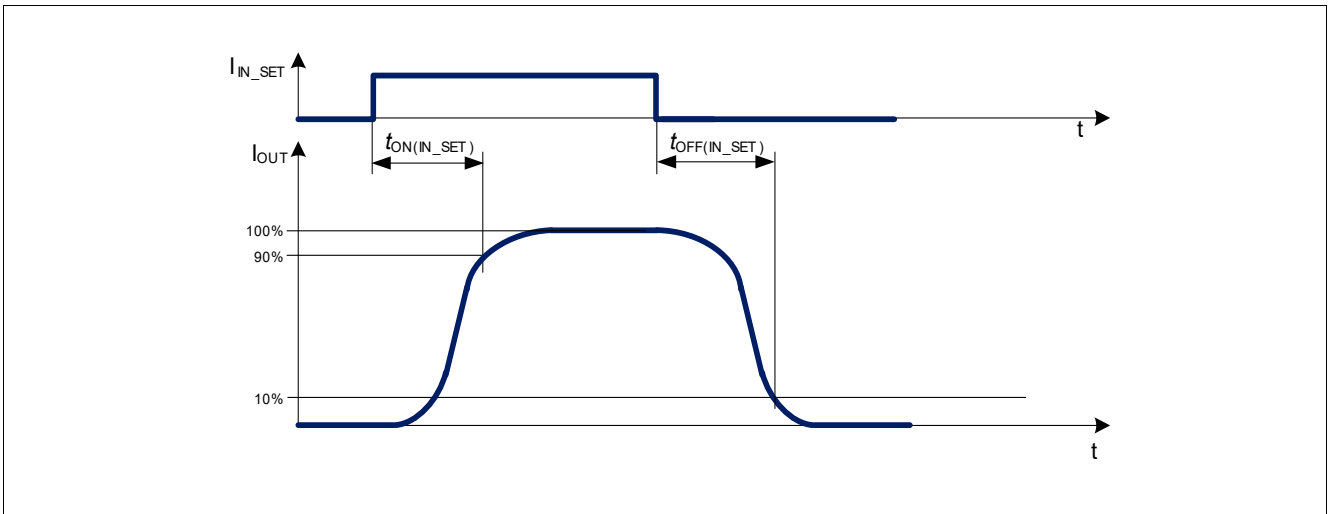
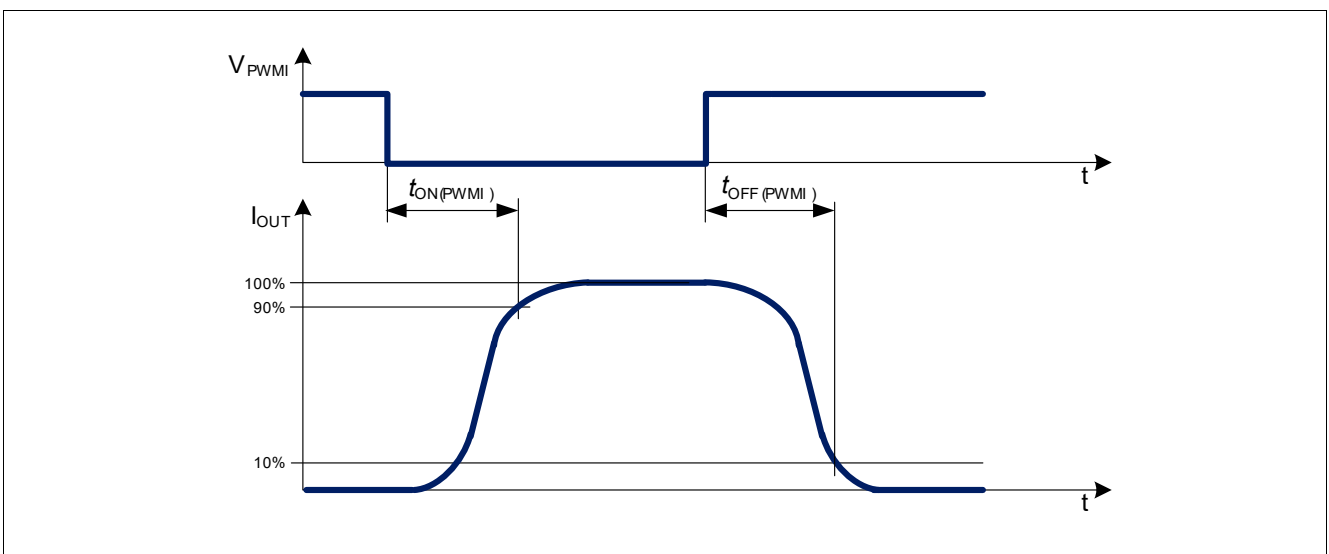

Figure 12 IN\_SET turn on and turn off delay timing diagram
Figure 14 PWMI turn on and turn off timing diagram
In the following diagrams (Figure 12, Figure 14) the influences of different driving inputs on output activation delays are shown.
- 2) Refer to Figure 12.
- 4) Refer to Figure 14.